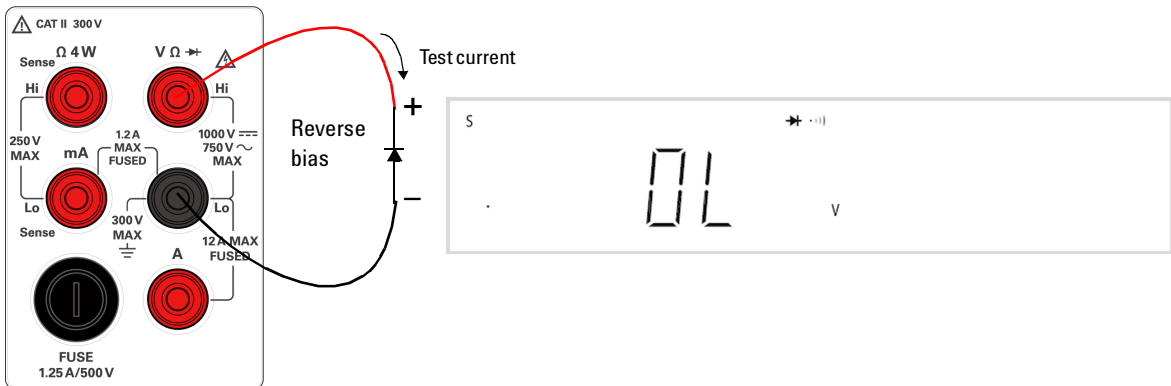

Figure 2-9 Reverse-biased diode/continuity terminal connection and display
- 5 Reverse the probes and measure the voltage across the diode again (refer to Figure 2-9). Assess the diode according to the following guidelines: